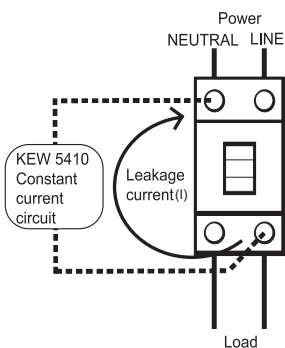
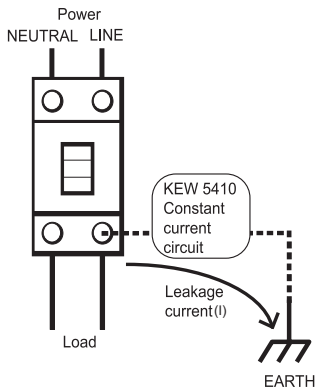

Fig. 5
Fig. 6
This instrument has a constant current circuit, and drives leakage currents (I) between LINE-NEUTRAL as illustrated in Fig.5 to activate RCDs, moreover, can output and measure leakage currents flowing to the earth as shown in Fig.6.